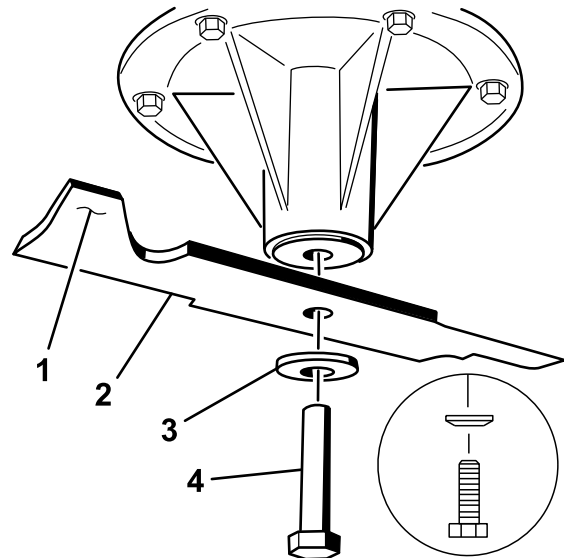

Figure 100
2. Remove the blade bolt, curved washer, and blade from the spindle shaft (Figure 100).
- If the blade is not balanced, file some metal off the end of the sail area only (Figure 100).